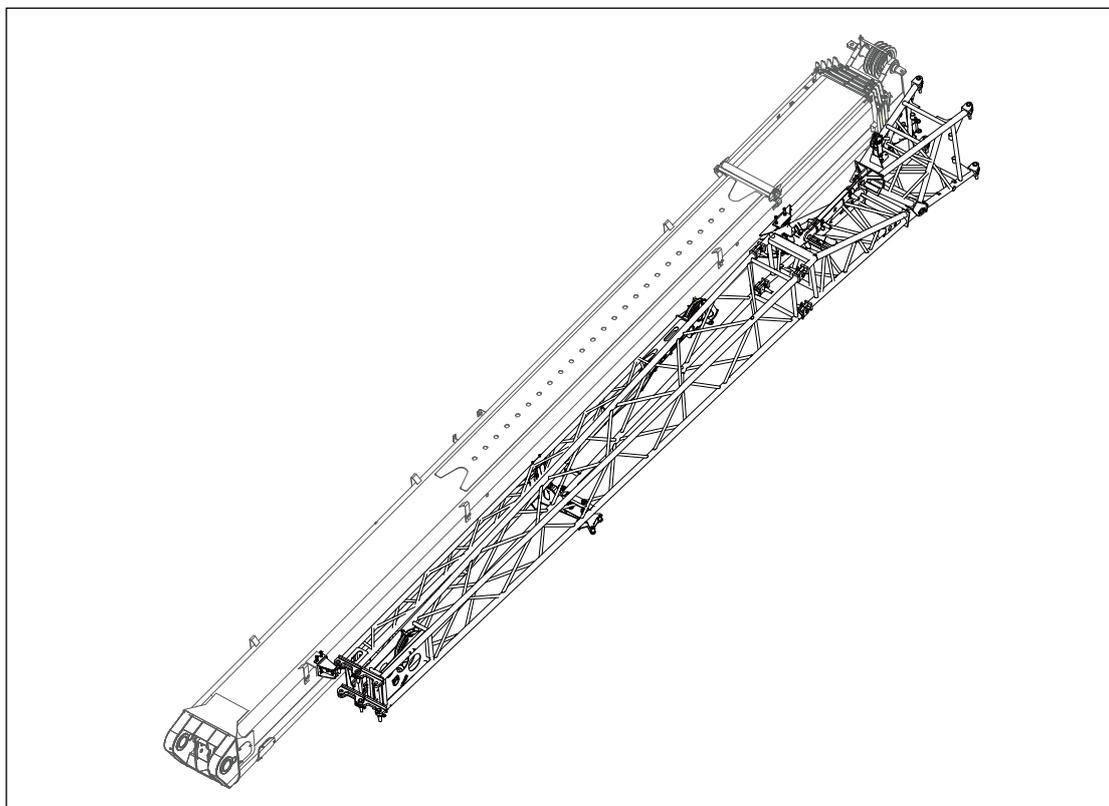
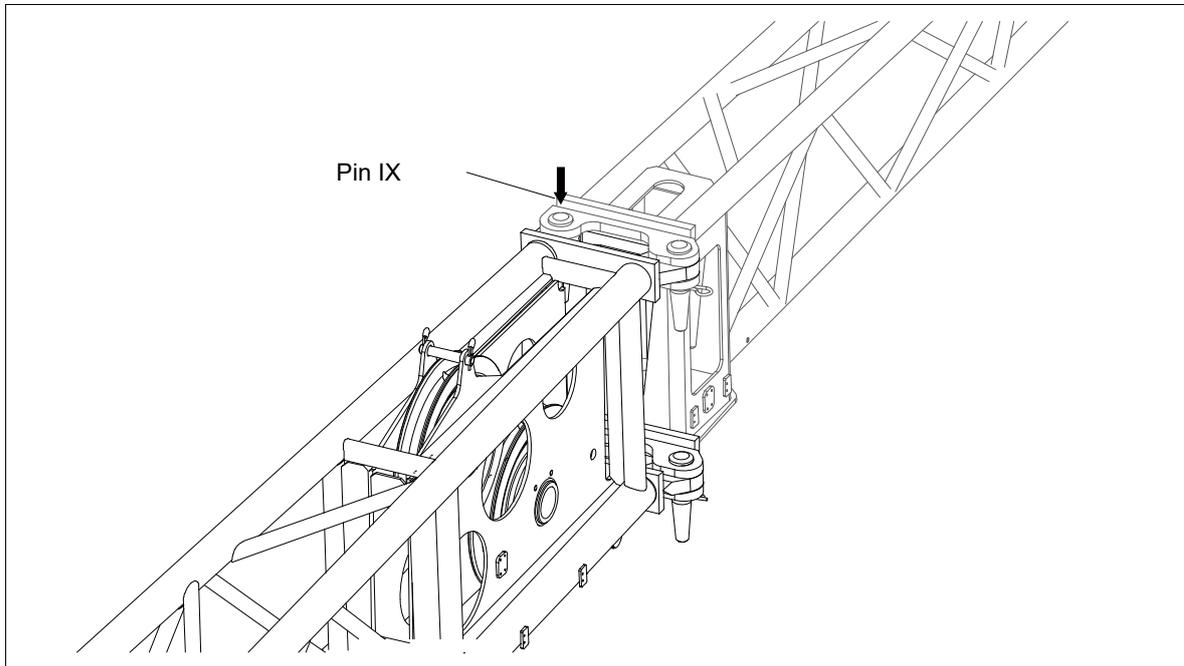

Figure 5-1 Jib assembly
Figure 5-13 Pin IX installation
How to install the jib (Take 0° angle for example). Refer to Figure 5-1 to Figure 5-13.
- l) Align the end of the jib section 2 with the pin holes on the left side of the jib section 1 head. Install the pin IX and the retaining clip. See Figure 5-13.